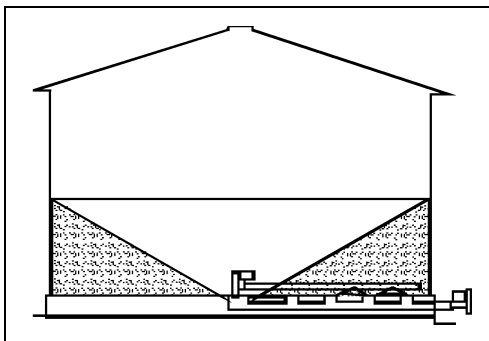
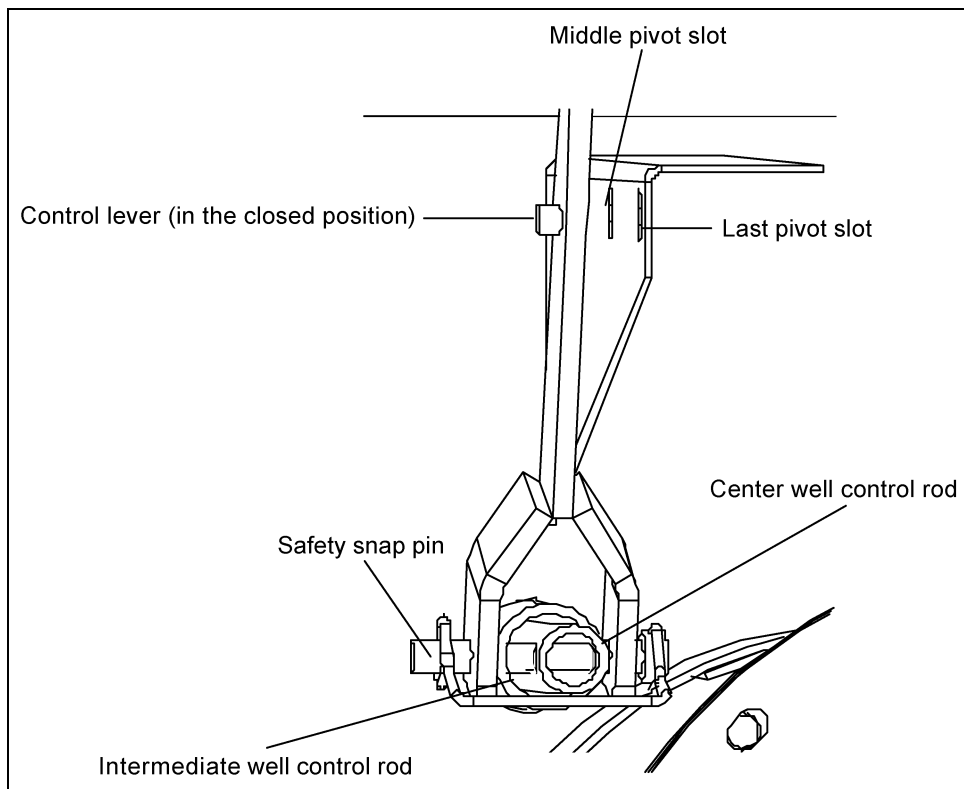

Figure 5A
Figure 5D
- E. When grain flow stops from the center well, close the center well gate. Insert the safety snap pin through the control lever and both the intermediate and center well control rods as shown in Figure 5D. The remaining grain in the bin should look similar to the pattern shown in Figure 5A.